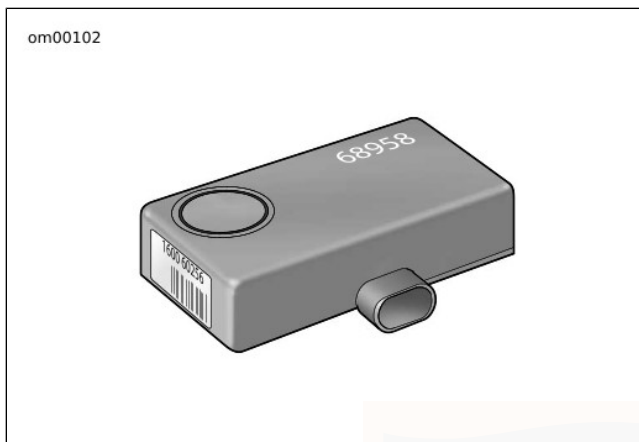

Figure 40. Optional Smart Siren
- See Figure 40. Sound the optional siren.